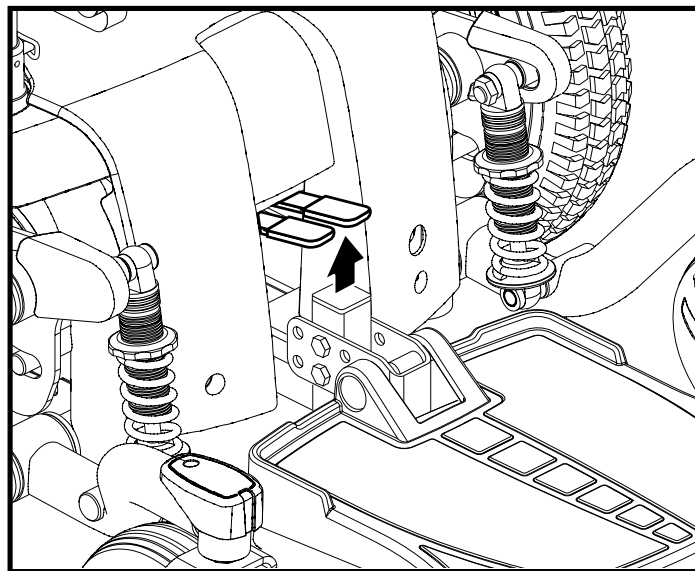

Figure 9. Freewheel Mode (Drive Disengaged)
3. Pull the two levers upward to disengage the drive motors (freewheel mode). See figure 9.